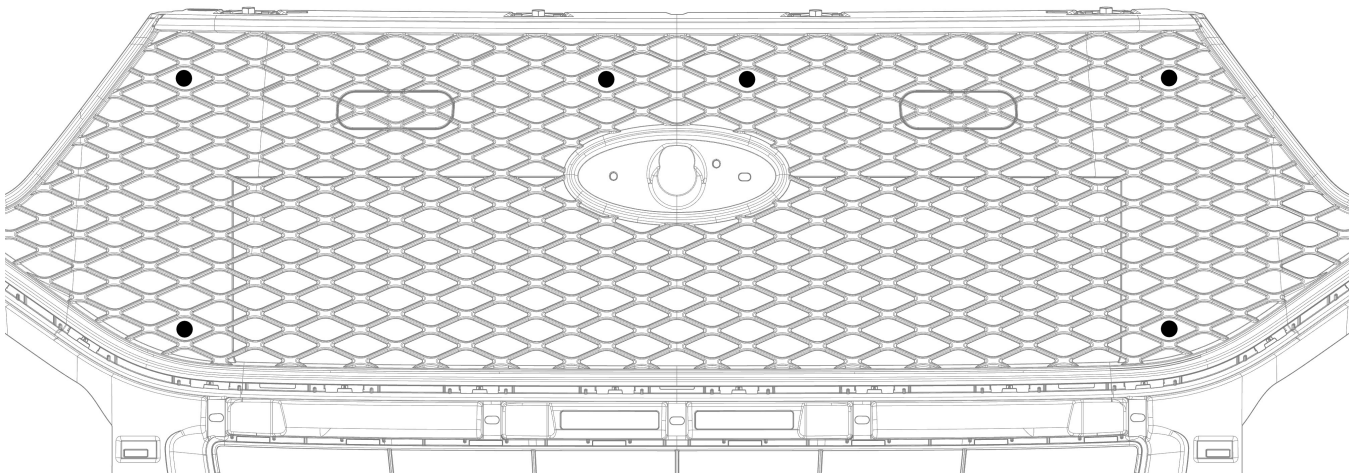

Figure 1
- A. Mark the location of each of the (6) dots in Figure 1. The dots are located in the center of their respective diamond.